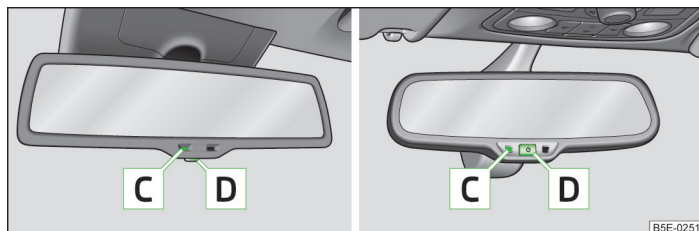

Fig. 44 Automatic dimming mirror
- To activate the auto-dimming, press button **D** » Fig. 44.
- To disable auto-dimming, press button **D** » Fig. 44 again.